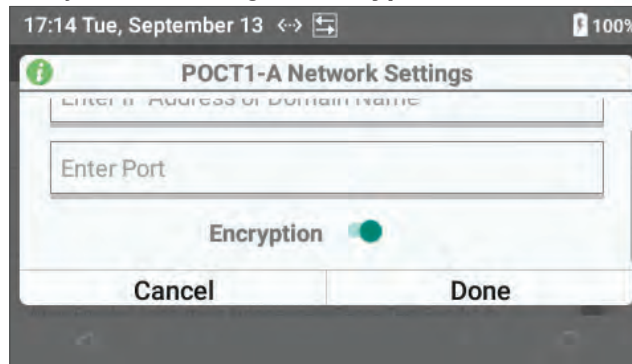

Figure 32: POCT1-A Network Settings – Encryption
- 4 Scroll down (Figure 32) and use the toggle to select **On**  (Toggle On) or **Off**  (Toggle Off) for **Encryption**. The factory default setting for **Encryption** is set to **On**  (Toggle On).